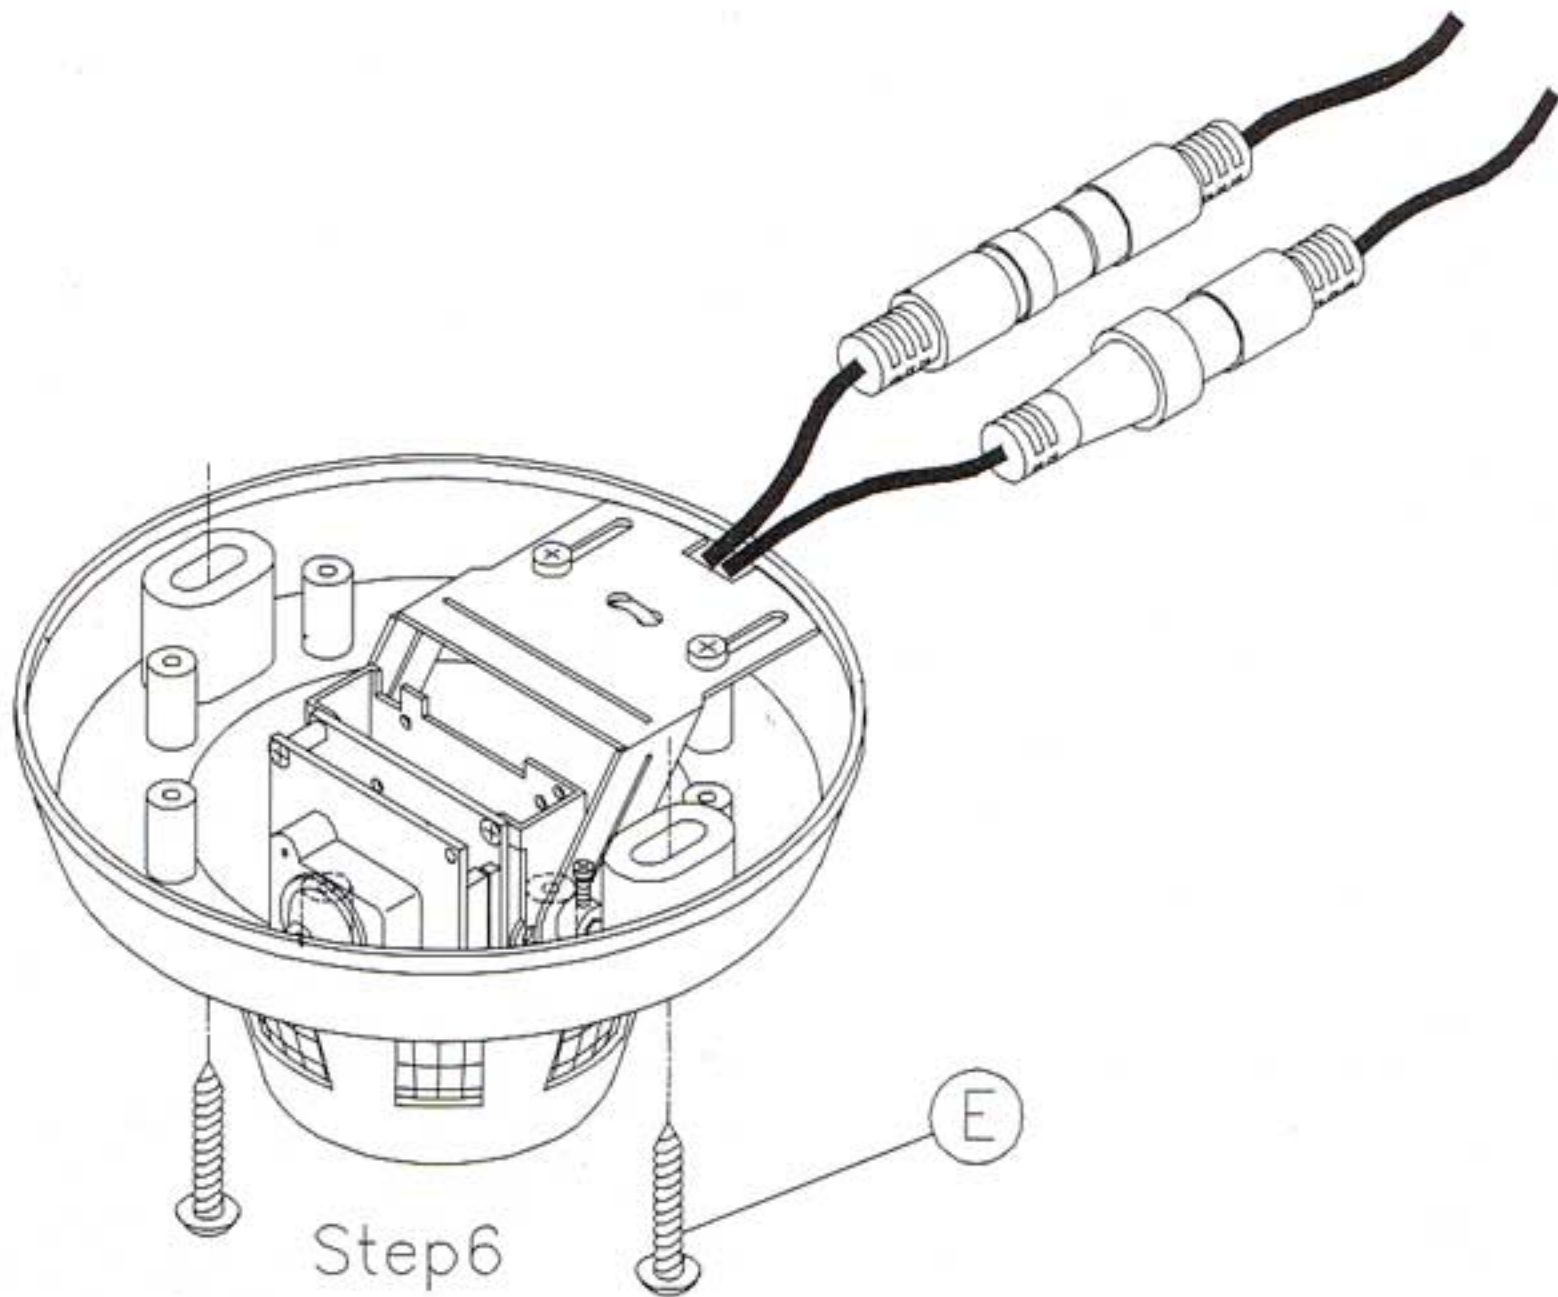

Figure 2 (Step 6)
STEP 6: To secure the unit in the location selected in STEP 1, tighten the screws **E** in the holes as shown in Figure 2.